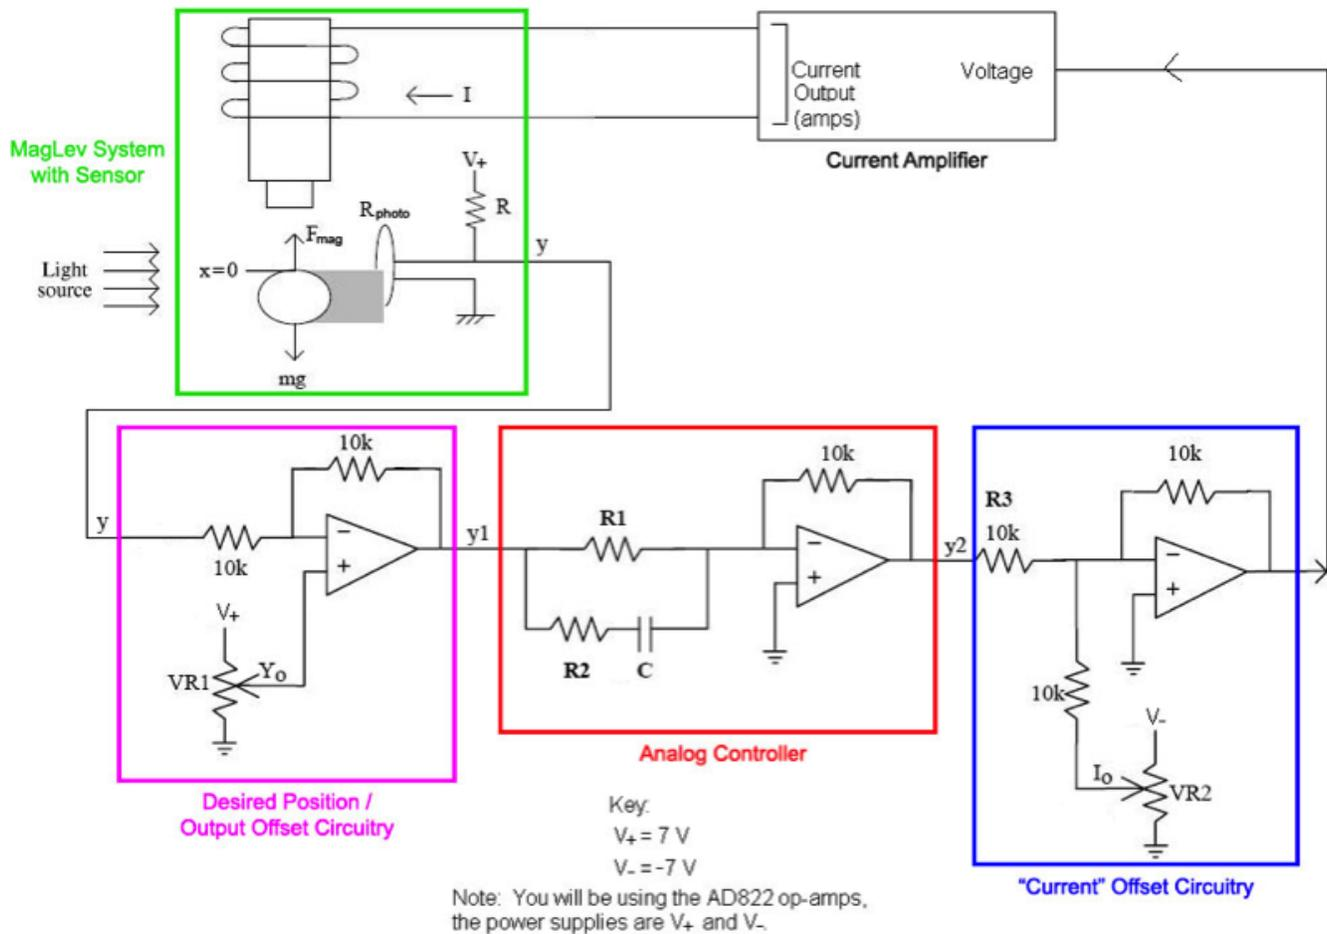
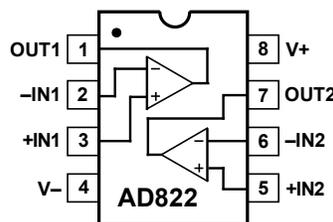

Figure 3: Block diagram of the magnetic levitation setup with circuit level details.
Figure 4: Connection Diagram AD822 OpAmp.
Figure 3 on the next page of these instructions shows a block diagram of the magnetic levitation setup with circuit level details. You will be picking values for  $R_1$ ,  $R_2$ , and  $C$  to stabilize the steel ball around an equilibrium point. The potentiometers will be used to calibrate the photoresistor and the current offset to the equilibrium point.
Let  $y_{ref} := Y_0$  in the left box in Figure 3. This is the reference voltage that you will adjust using a potentiometer. Derive the following relationship between the signal  $y_1$ , the voltage  $y$  from the photoresistor and the reference voltage  $y_{ref}$ :
Derive the following transfer function of the analog controller in the red box in Figure 3:
In the current offset circuit in the blue box in Figure 3, let  $y_i$  be the voltage drop across the potentiometer and let  $V_{out}$  be the output of the op amp. Observe that  $y_i$  will be negative. Derive the following relationship:
You will not have to implement the complete circuit given in Figure 3 in this lab, that will happen next week. However, you will be using the current amplifier. The GSI will help you with setting things up. **Do not turn on your circuit before checking off with the GSI!** If you want to know more about the current amplified, you can find a data sheet under <http://www.copleycontrols.com/Motion/pdf/bantam.pdf>.
- The first offset circuits in Figure 3 is to scale  $y$  down to  $y_1$  such that  $y_1$  moves around 0.
2. Measure the range of variation of the resistance of the photo-resistor as the balls shadow covers from none to the entire resistor surface. Using this data, determine a suitable resistor value  $R$  to use in series with the photo resistor (see green system box in Figure 3), given that the supply voltage is  $V_+ = 7V$  and the fact that the photo resistor must not exceed a power dissipation of 250mW. *Hint:* You can use the wooden piece to keep the ball from rolling around.
For the second part of this lab, you will build an op amp circuit so that you can get used to debug op amp circuits, which you will build in the next week. For this lab, you need to build “Desired Position/Output Offset Circuitry” in Figure 3. Since we do not connect the photoresistor to the circuit this week, for the voltage  $y$ , please use the power supply.
- Build “Desired Position/Output Offset Circuitry” in Figure 3 (For the op amp, please look at Figure 4)